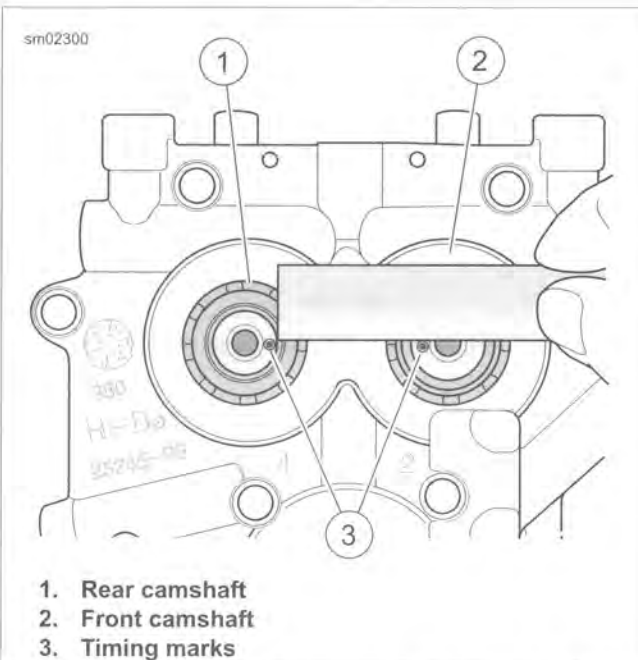

Figure 3-107. Verify Alignment of Timing Marks
3. See Figure 3-107. Verify that the timing marks on the ends of the front and rear camshafts are in alignment.